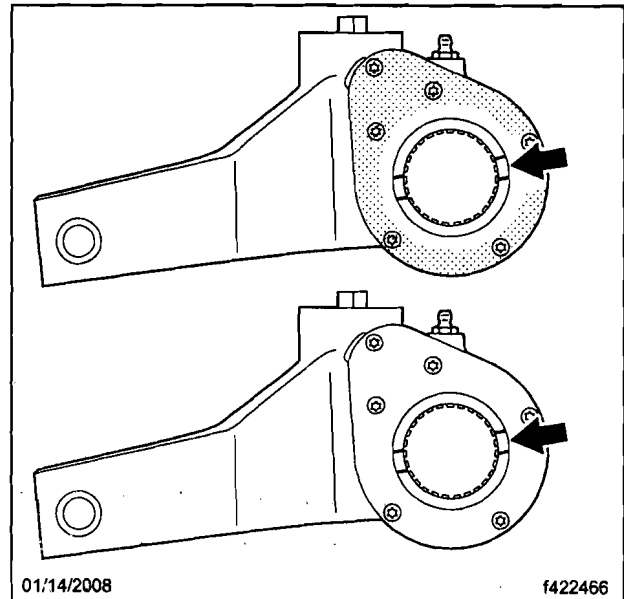

Fig. 3, Aligning the Adjusting Tangs
14. On the new slack adjuster, position the adjusting tangs to the same position as on the slack adjuster that was removed. See Fig. 3.